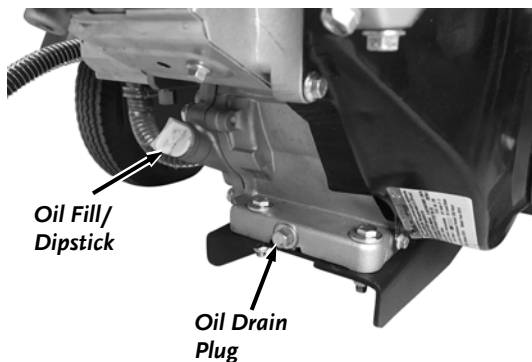

Figure 56
1. Place an approved Container under the Oil Drain Plug (**Figure 56**).